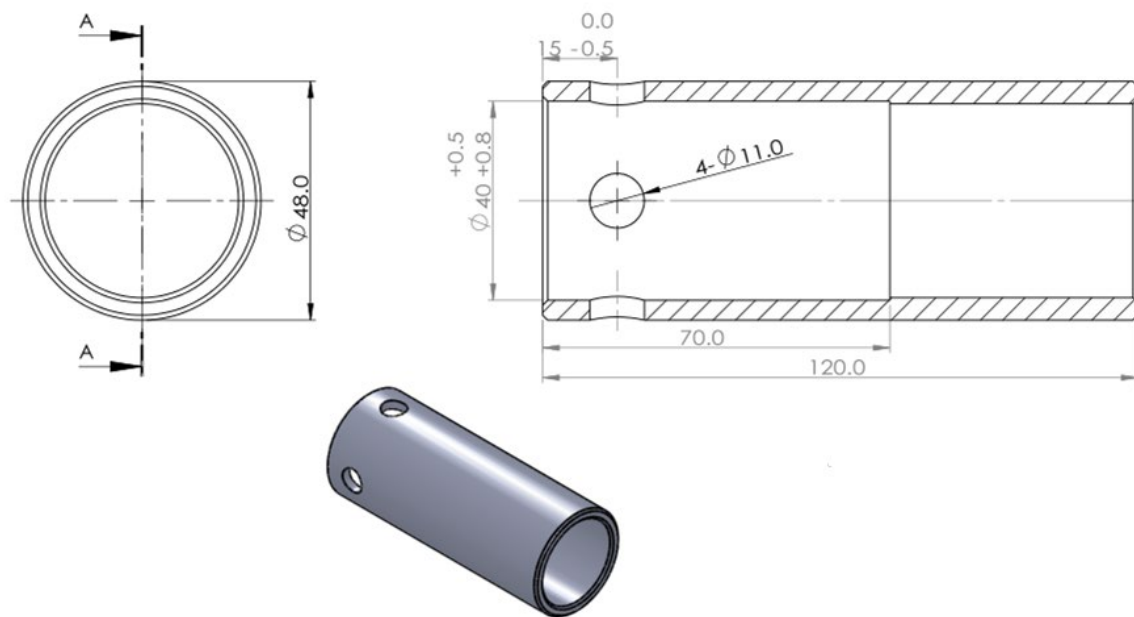

Figure1
1. Use a suitable iron rod to weld the accessory sleeve onto (dimensions of the accessory sleeve can be seen in the Figure1).